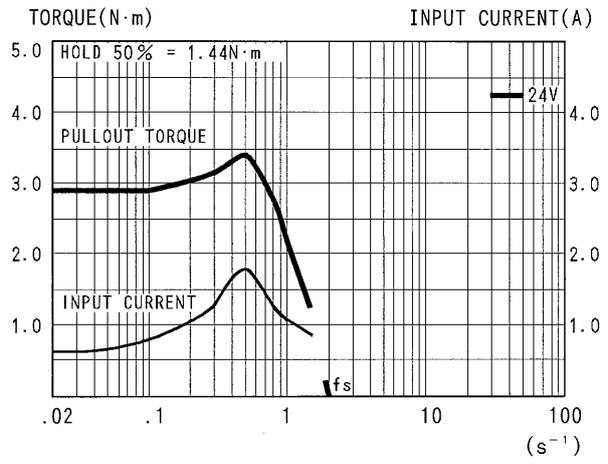

Fig. 9
| | 103H7521-7051(7021) 103H7522-7051(7021) 103H7523-7051(7021) 103H8581-7041(7011) 103H8582-7041(7011) | 0.72 | 0.75 | ON (5L) | OFF (IH) | Fig.9 10 11 12 13 |